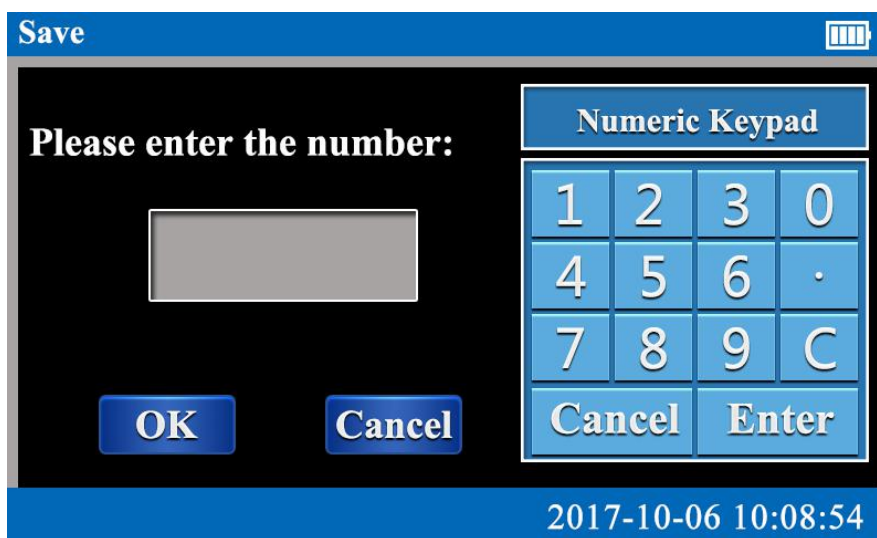

Figure 3
② Under the measurement interface, press "CURVE" to enter the curve tracking display interface. Press "SAVE" to enter the data saving interface, and the test data can be saved according to the instructions of the instrument. Press "BAKE" to exit the measurement state back to the main operation interface.
③ Under the data saving interface, click on the blank space of the edit box on the right of the device number. After the cursor is displayed, press the right numeric keypad, enter the device number, and press the "OK" key to save the test data and enter the data query interface. Press the "Cancel" to exit the data saving interface and return to the measurement state. As shown in Figure 3: